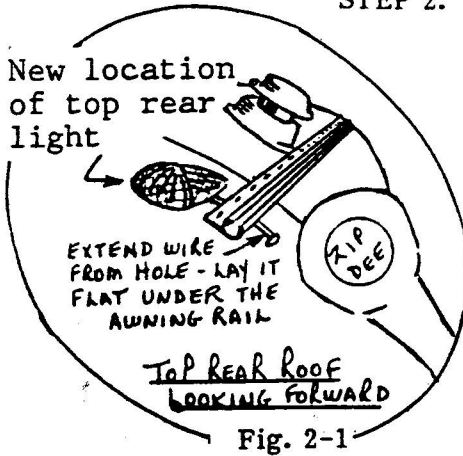
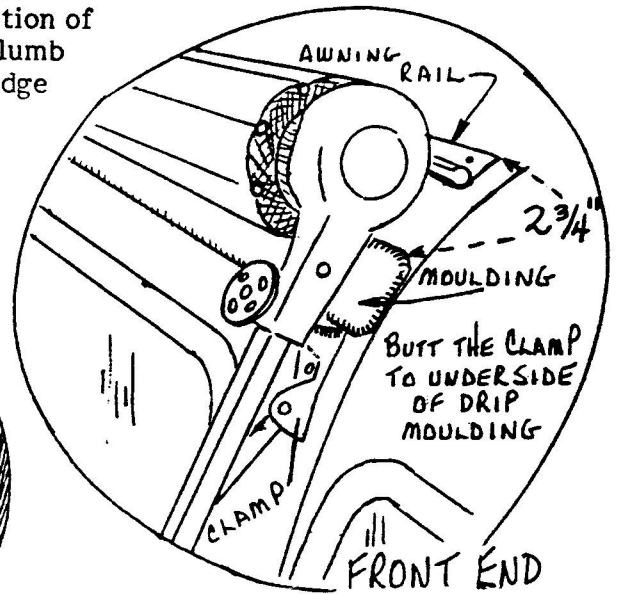

Fig. 2-1
Fig. 2-2
STEP 2. Remove rear top running light from mounting and pull up extra wire for re-installing above awning rail after Step 3. (See Fig. 2-1.)
Step 4. Position awning rail as shown in Fig. 2-2. Rail should extend evenly beyond plumb lines. Be sure running light wire is put flat under rail (Fig. 2-1). Attach rail with #6 or #8 x 1/2" sheet metal screws (not provided).
Step 5. Hold assembled front main arm firmly against the coach so that clamp is butted against bottom of drip molding as shown in Figures 2-2 & 2-3 and so that hinge and clamp are aligned on plumb lines as shown in Fig. 3. Mark locations of clamp and hinge and mount as shown. Attach spring arm assembly. Repeat step for rear arms.